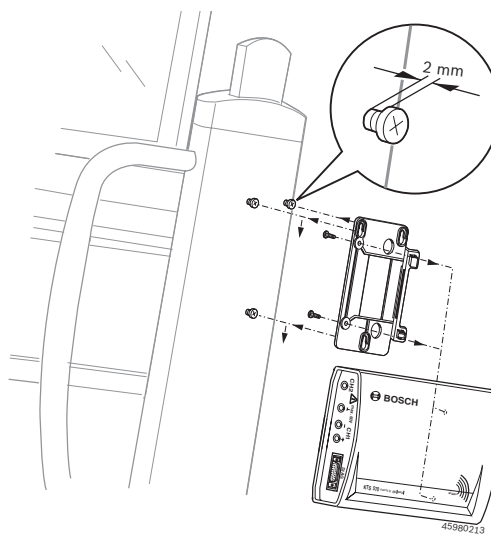

Fig. 4: Fitting the mounting bracket
1. Screw the three oval head screws contained in the scope of delivery into the Bosch trolley (see fig.4).